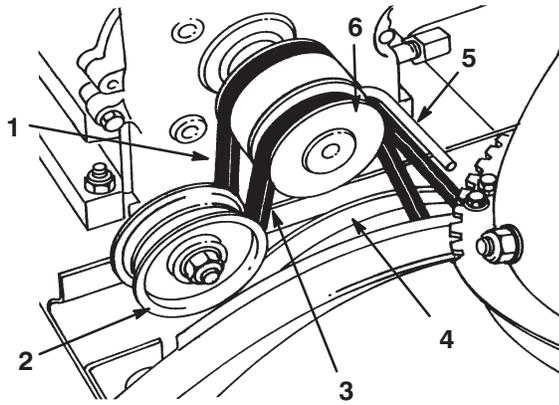

Figure 24
6. Remove the auger/impeller drive belt from the engine pulley and the large auger/impeller pulley (Fig. 24).
11. Remove the traction drive belt from the engine pulley and the large traction pulley (Fig. 24).
13. Loop the belt over the engine pulley, ensuring that the belt is on the inside of the belt guide (Fig. 24).
18. Install the auger/impeller drive belt around the large auger/impeller pulley and engine pulley, ensuring that the belt is on the inside of the idler pulley and the belt guide (Fig. 24).
4. Loosen the belt guide (Fig. 24).
5. Remove the auger/impeller drive belt from the engine pulley and the large auger/impeller pulley (Fig. 24).
6. Install a new belt around the large auger/impeller pulley (Fig. 24).
7. Loop the belt over the engine pulley, ensuring that the belt is on the inside of the idler pulley and the belt guide (Fig. 24).